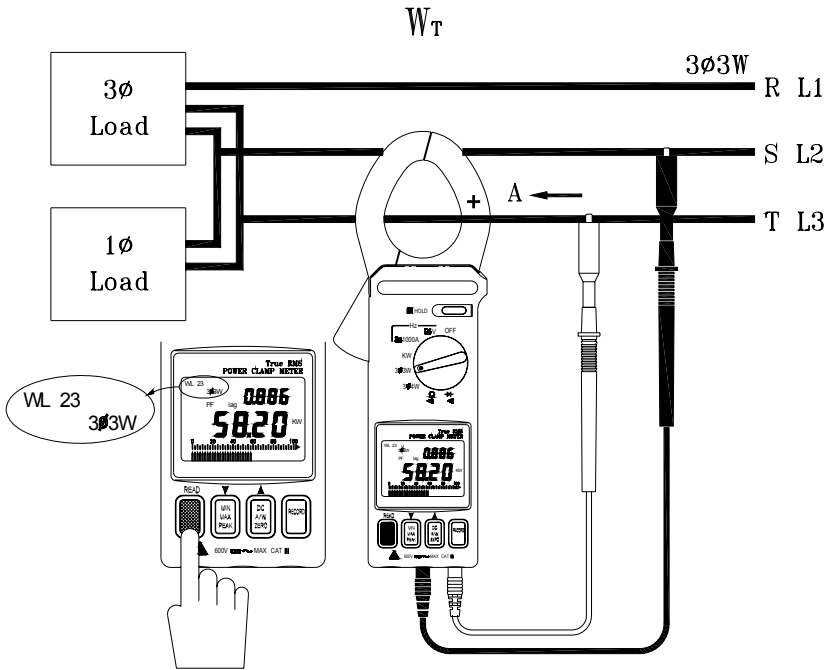

Figure 5
**B. Measure  $W_{TS(L3L2)}$  (refer to figure 5).**